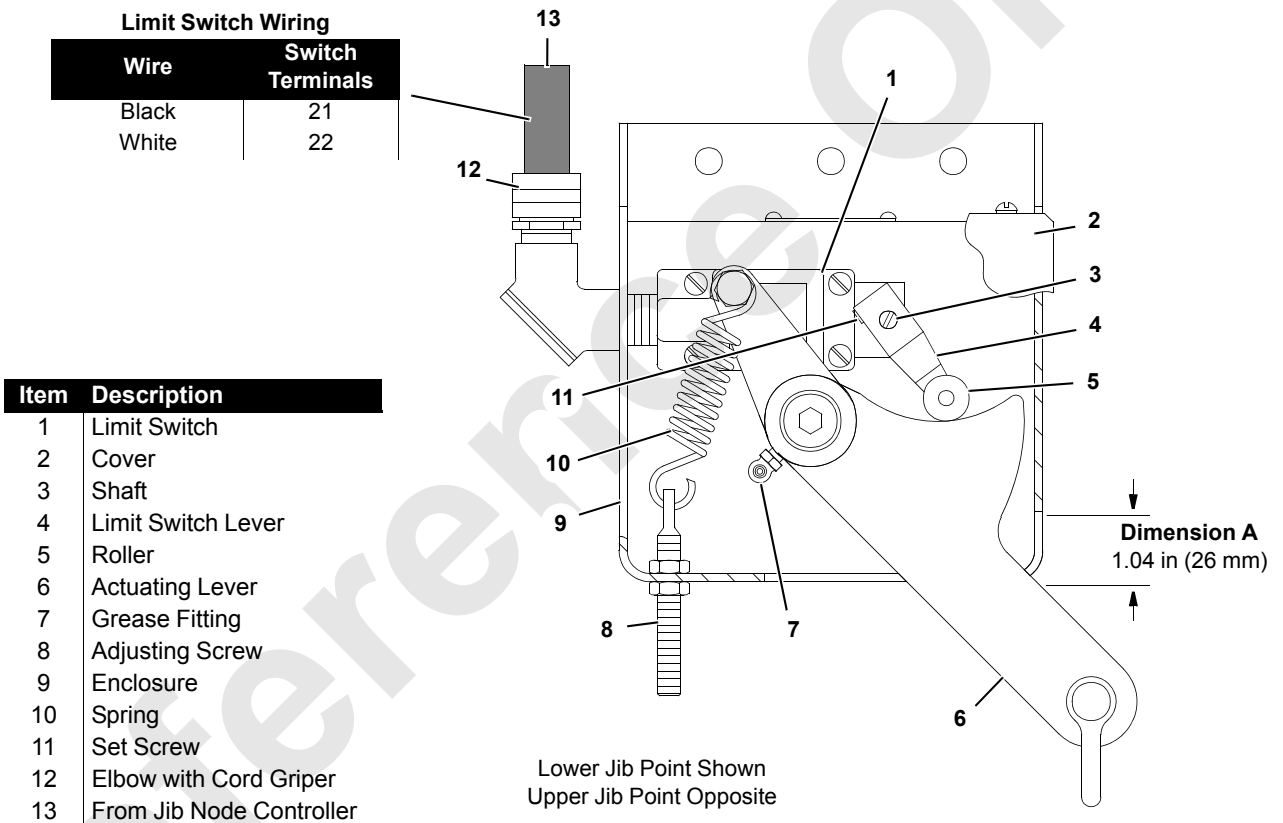

FIGURE 6-9
- a. Inspect each limit switch lever and actuating lever (Figure 6-9) for freedom of movement. Apply one-half shot of grease to the fitting on the actuating lever. Wipe away any excess grease.
See Figure 6-9 for the following procedure.